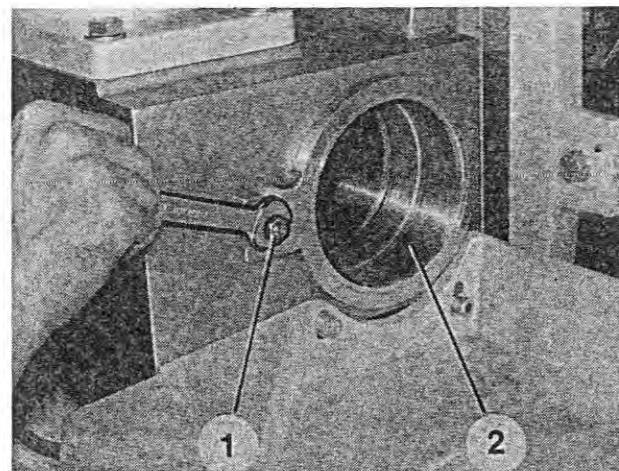

Fig. 182
9. Loosen the hex nut (Figure 182/1). Turn the intermediate cylinder (Figure 182/2) away from the retainer and pull it out of the dosing case.